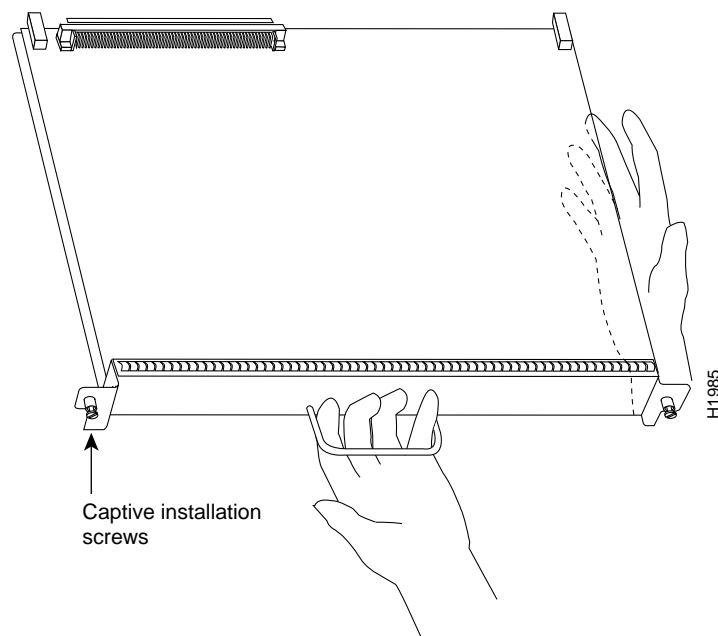

Figure 6 Handling the SP During Installation and Removal
If you are replacing an existing SP, remove the existing module first, then replace the new SP in the same slot. Figure 6 shows proper handling of an SP during installation.
- Step 1** Turn all power supply switches OFF (O).
- Step 3** Loosen the captive installation screws at both ends of the SP. (See Figure 6.)
- Step 5** Use the handle to carefully pull the module straight out of the slot, keeping your other hand under the carrier to guide it. (See Figure 6.) Keep the SP at a 90-degree orientation to the backplane.
Step 1 Hold the SP handle with one hand and place your other hand under the carrier to support the bottom as you guide it into the slot. (See Figure 6.) Avoid touching the board or connectors.